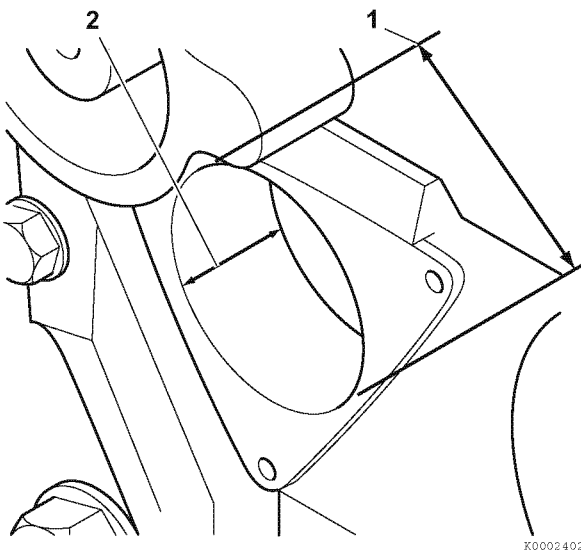

Figure 6-75
- Measure the cavity inside diameter (1, **Figure 6-75**). Measure in at least two directions 90° apart. Record the measurements.
- Measure the cavity depth (2, **Figure 6-75**) using a depth micrometer. Record the measurement.